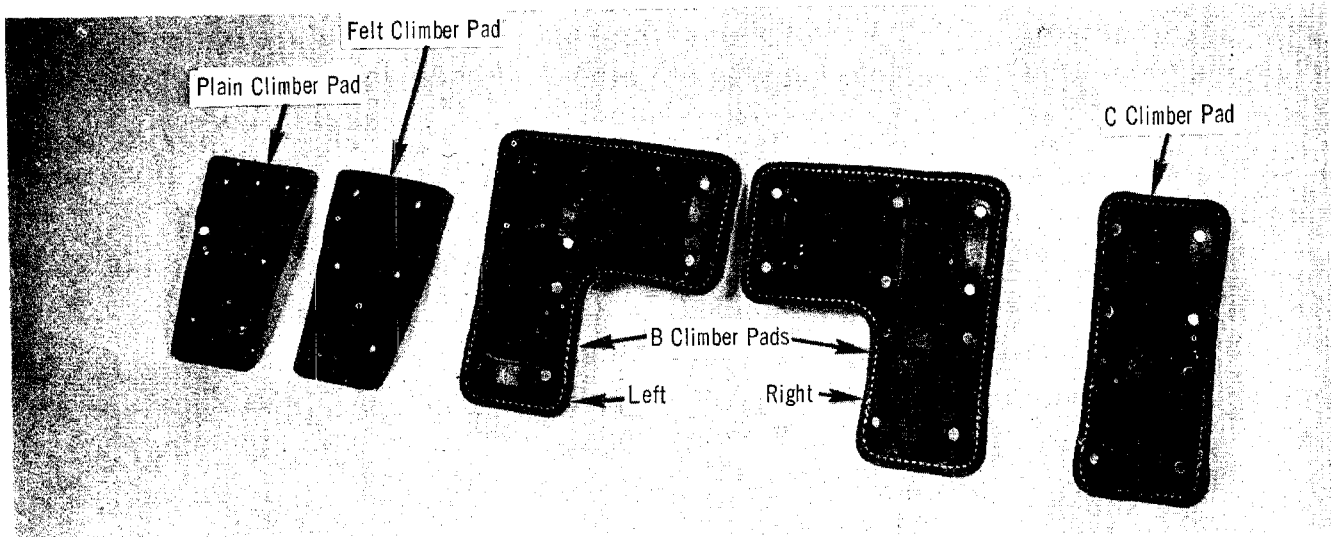

Fig. 4 - Pads
2.04 Plain, felt lined and cushion pads, Fig. 4, are available for use with climbers. Cushion pads are coded B Climber Pads (angle) and C Climber Pads (straight). Plain and felt lined